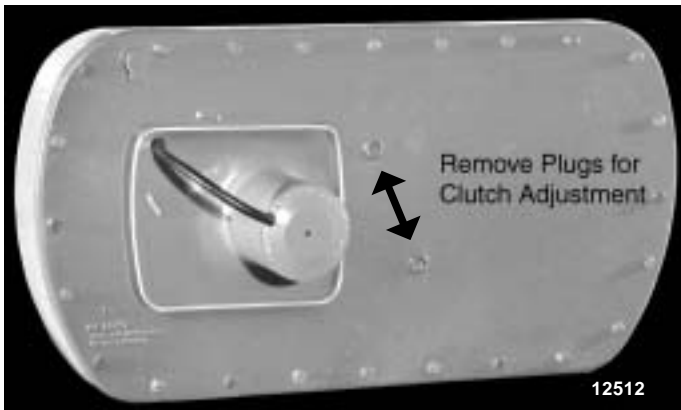

Figure 7-3. View Showing Clutch Adjustment Plug Locations
- f. Remove two pipe plugs from gearcase (see Figure 7-3).